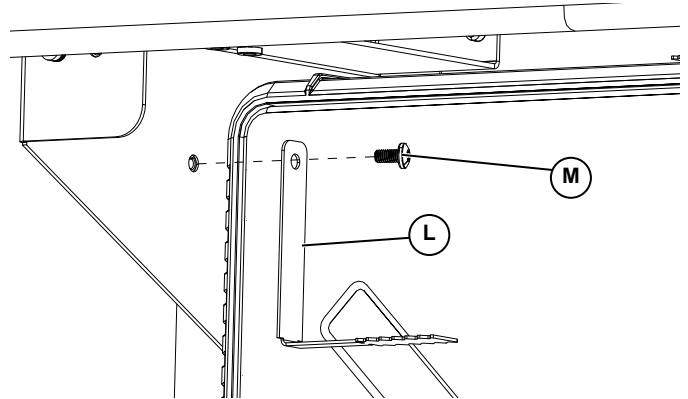

Figure 4-13. Installing Top Grounding Tabs
3. See Figure 4-13. Install grounding tabs (L) at the top of the module on both sides.
4. Fasten each grounding tab with M4x8 machine screw (M).